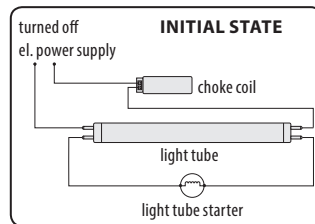

Fig. 2A
- When the tube starter and fluorescent light tube is replaced with an LED tube and LED driver then the choke coil remains installed in the light fixture, which may result in a higher power consumption and may have an effect on effectiveness, and it can also be disconnected as shown in figure 2A to 2C. However, the choke coil may only be removed by an electrician with the necessary electrical qualifications since this constitutes an alteration to the electrical part of the light fixture.